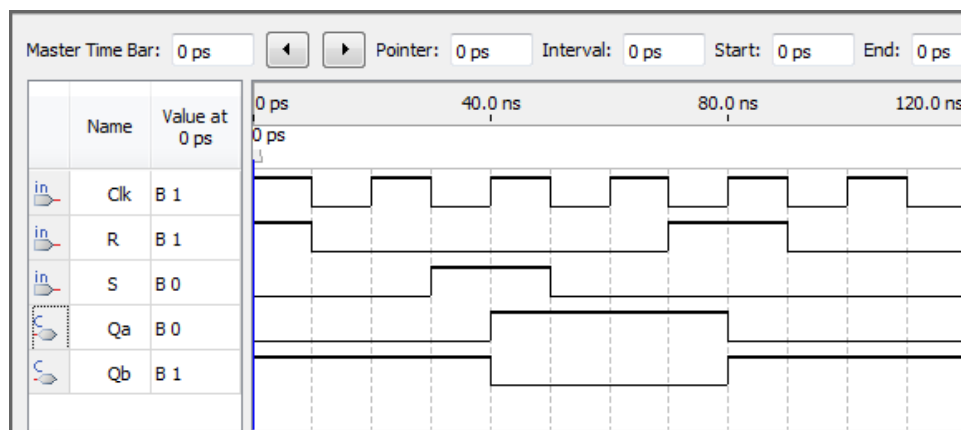

Figure 5: Simulation waveforms for the RS latch.
4. Simulate the behavior of your Verilog code by using the simulation feature provided in the Quartus II software. First, create a vector waveform file (*.vwf) using the Quartus II software to specify the inputs and outputs of your circuit. Then, use the commands available in the Quartus II Simulation Waveform Editor tool to run a simulation of the circuit. The procedure for using the Simulation Waveform Editor to perform a simulation is described in the tutorial *Quartus II Introduction*, available on the Altera University Program website (more detailed instructions are provided in the tutorial *Introduction to Quartus II Simulation*). An example of a vector waveform file is displayed in Figure 5. The waveforms in the figure begin by setting $Clk = 1$ and $R = 1$, which allows the simulation tool to initialize all of the signals inside of the latch to known values. If the waveforms provided to the simulation tool do not allow for initialization of all signals in the circuit, then the simulation tool may exit with an error condition.